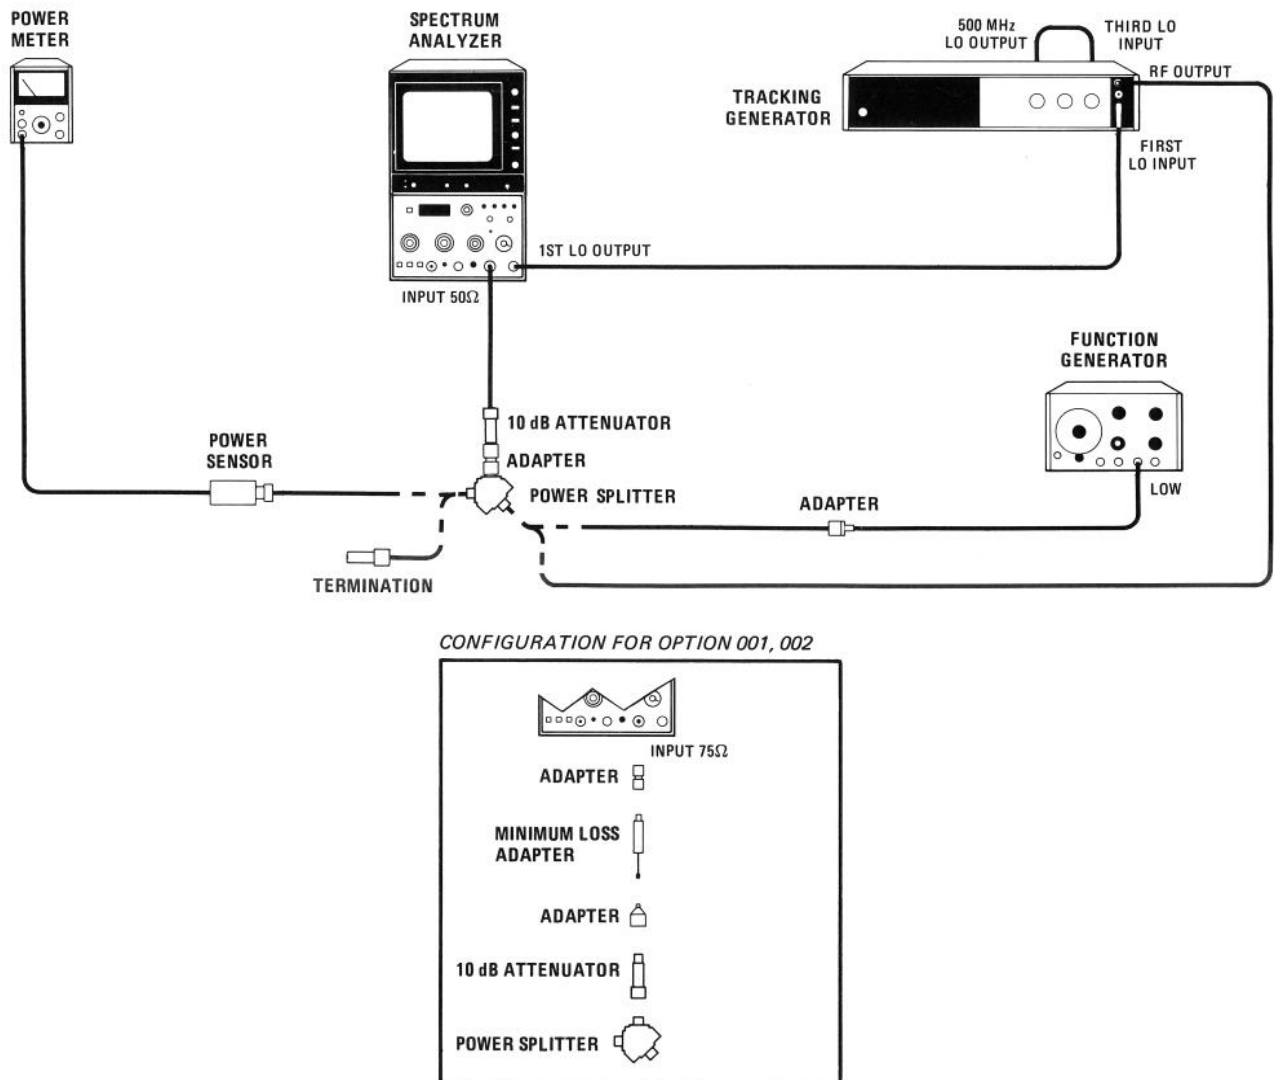

FIGURE 4-16. FREQUENCY REPSONSE TEST SETUP
3. Adjust TUNING for a FREQUENCY MHz reading of 5.0 MHz. Press FREQUENCY CAL. Set up equipment as shown in Figure 4-16. Connect the tracking generator 500 MHz LO OUTPUT to the THIRD LO INPUT (rear panel).